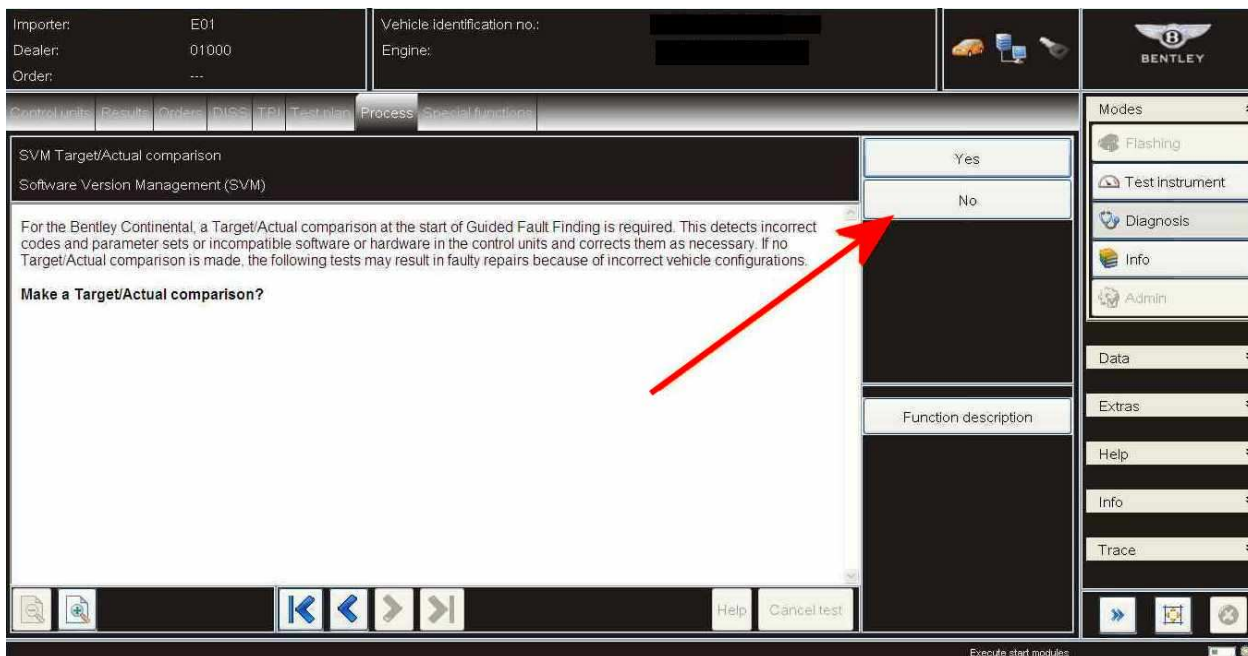

Figure 3
**IMPORTANT:** When requested to Make an SVM Target/ Actual comparison please select No (Figure 3)